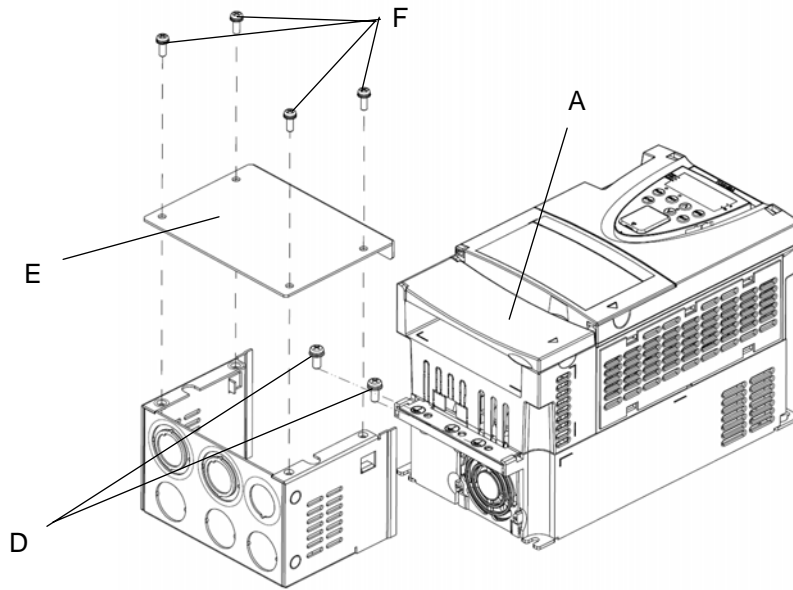

Figure 6
Step4: Attach the conduit box to the inverter and tighten it with two M5 screws (D). See figure 6.
Step6: Attach the conduit cover (E) to conduit box and tighten it with four M4 screws (F). See figure 6.
Step7: Replace the inverter cover (A) removed in step2.